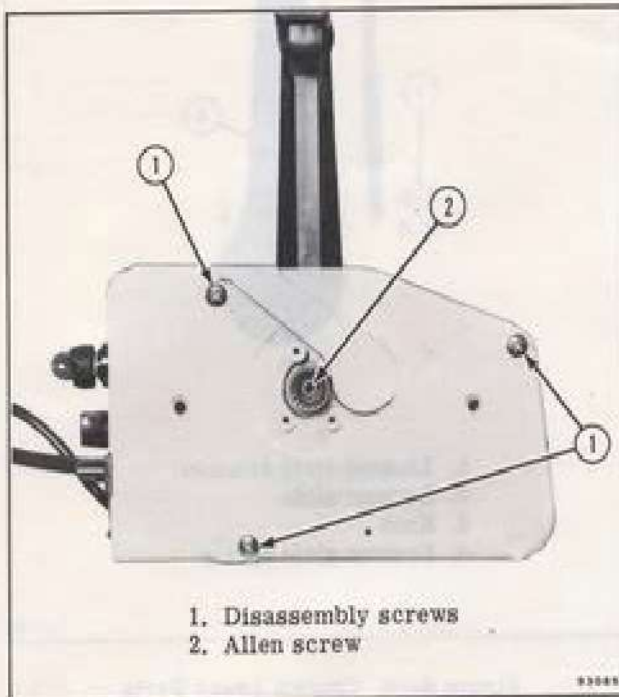

Figure 8-14. Disassembly Screws
b. To remove handle assembly, first loosen Allen head screw three complete turns. See Figure 8-14.
d. Remove three screws from control box and pull halves apart. See Figure 8-14.